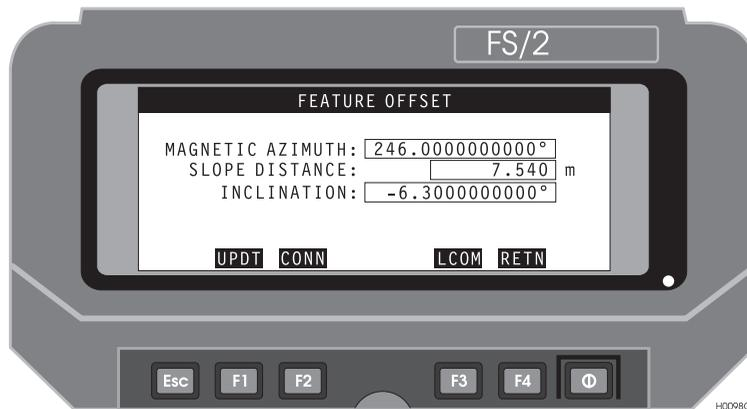

Figure 3.21: Feature Offset Screen
Log these features as offset point features by pressing **F3 (OFST)** key while entering the attributes for the point feature. (see Figure 3.21, “Feature Offset Screen” on
- b. If the data from the LRF requires editing, then press **F3 (OFST)** to call the Feature Offset screen, Figure 3.21.